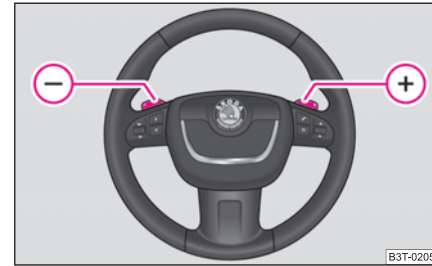

Fig. 136 Multifunction steering wheel: Manual shifting of gears
- Press the right rocker switch (+) ⇒ fig. 136 for the multifunction steering wheel.
- Press the left rocker switch (-) ⇒ fig. 136 for the multifunction steering wheel.